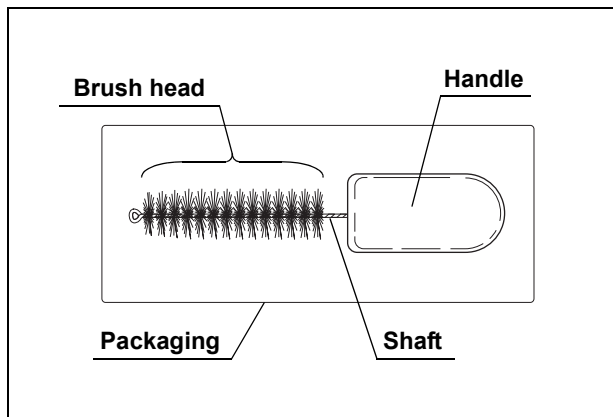

Figure 7.17
1. Open the packaging immediately before use (see Figure 7.17).